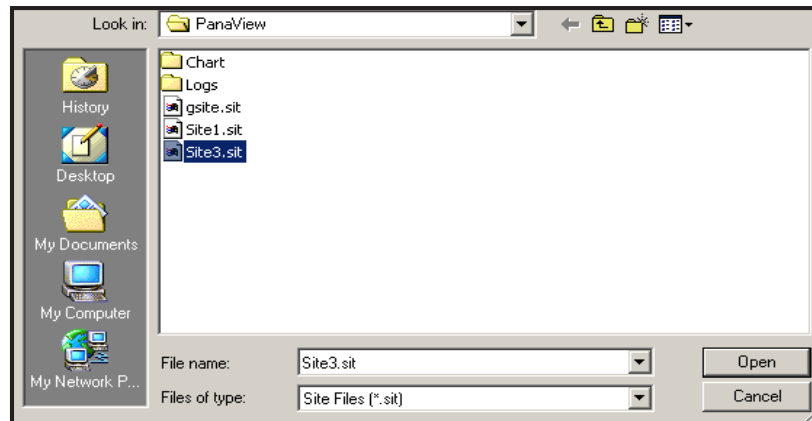

Figure 31: Site File Selection
2. Then click on the *Save Site to Meter* button. A screen opens similar to Figure 31.
3. The *Site File Selection* window (Figure 31 on page 106) opens. Highlight a site with the desired settings, and click [Open]. PanaView saves the site in the meter with the new name and the desired settings.
3. The *Site File Selection* window (Figure 31 on page 106) opens. Enter the desired site name (now with a .prt suffix) and click [Save]. PanaView displays a text version of the site, as shown in Figure 33.